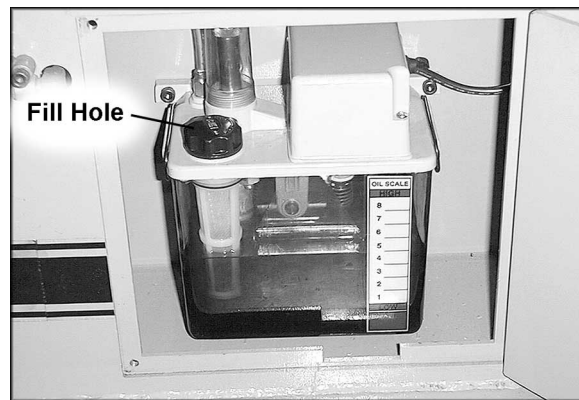

Figure 17
1. Check the oil tank at the infeed side of the machine (Figure 17). If it is not full, remove the cap and add light 20-weight oil through the fill hole. Replace cap when finished.